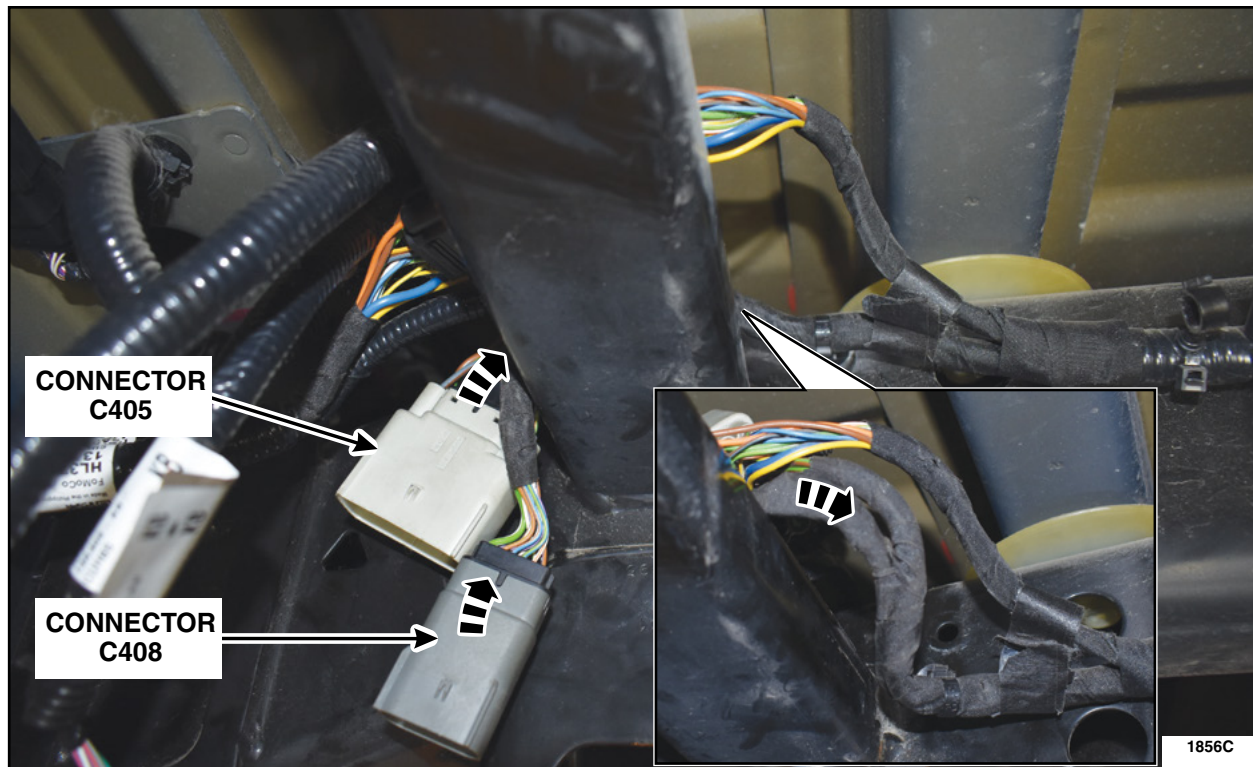

FIGURE 4
7. Route the C405 and C408 halves up over the frame and under the attached wire harness to allow for more slack. See Figure 4.